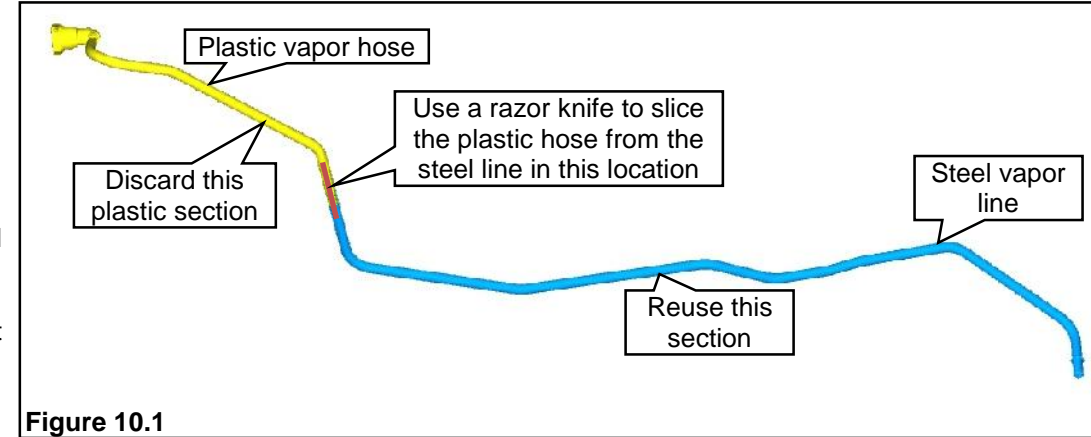

Figure 10.1
1. Place the OEM vapor hose and vapor line assembly on a bench and slice the hose using a razor knife where the hose connects to the steel line. Separate the plastic hose from the steel line and discard the hose. **Figure 10.1.**